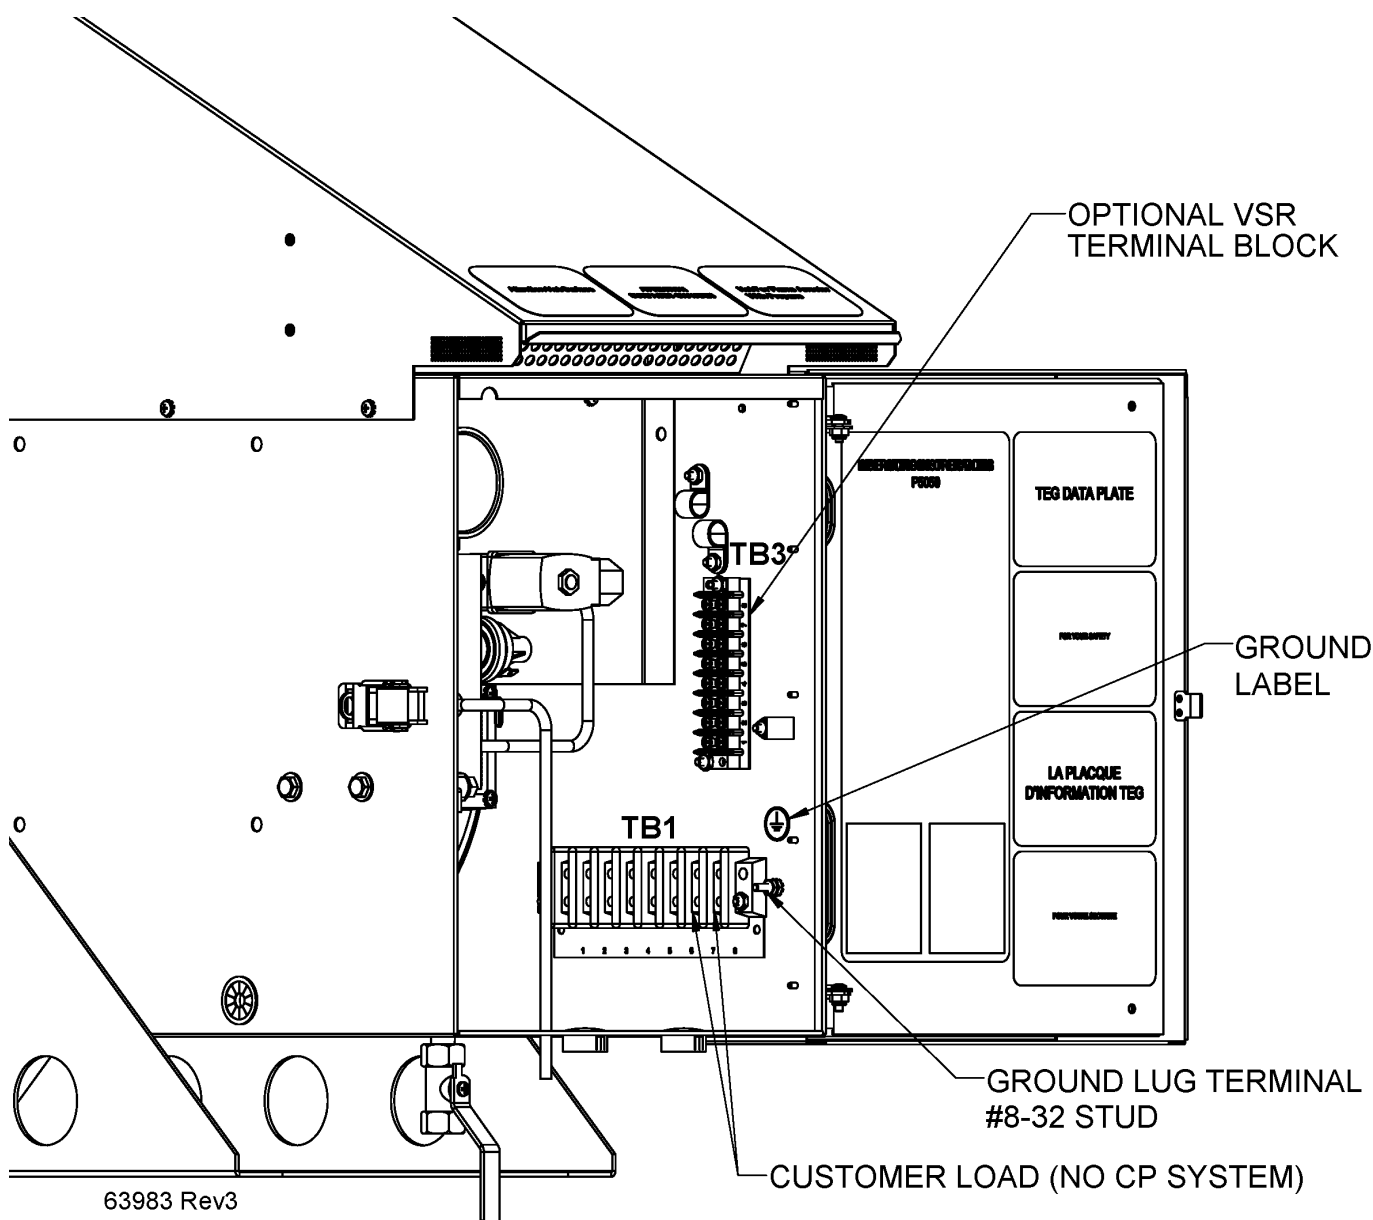

Figure 15 - Customer Load Connections
1. Bring the customer load wires through the provided hole in the bottom of the TEG cabinet using appropriate cable connectors for the wire or cable being used. Allow enough wire to connect to the terminal block TB1. See Figure 15.
Run the CP interface system wires to the TEG as per Figure 13 or Figure 14, as appropriate, and terminate to TB1 (see Figure 15).
3. To set-up the TEG for power output evaluation, disconnect customer load from terminals 7 (+) and 8 (-) of TB1 (see Figure 15). Connect a DC voltmeter to terminals 5 (+) and 6 (-) of TB1. This will be measuring V_{SET} .
1. Disconnect the customer load from the TEG, terminals 7 (+) and 8 (-) of TB1 (see Figure 15) and allow to stabilize for 15 minutes.